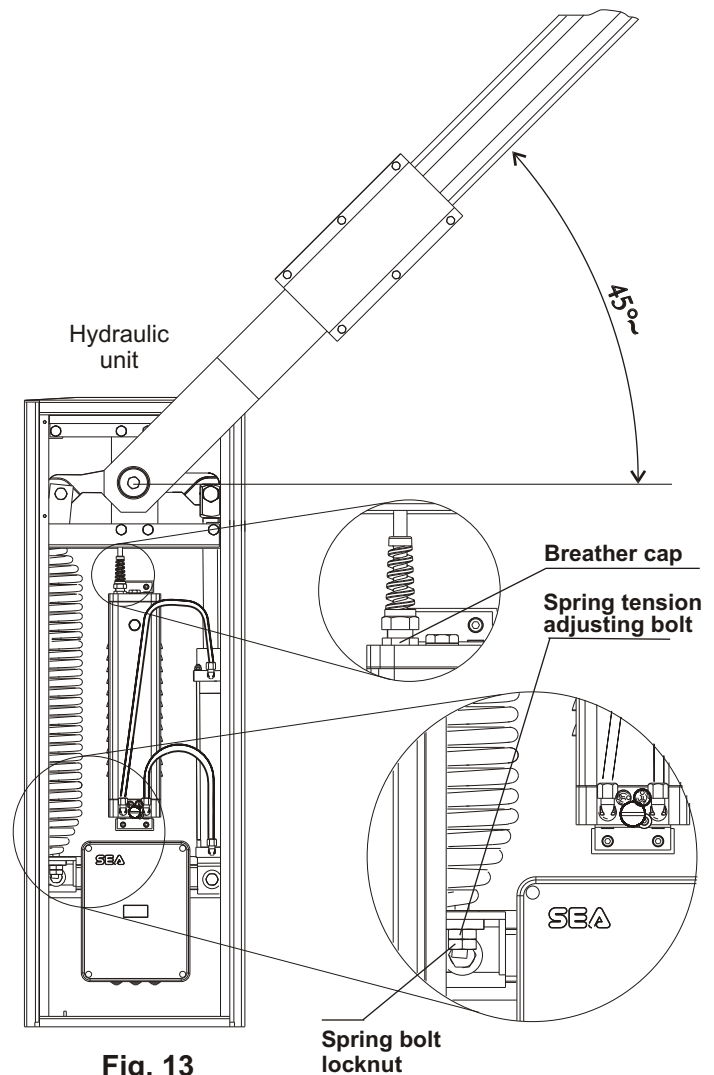

Fig. 13
- Place the beam at approx. 45° and execute the balancing with the nuts of Fig. 13
- Tight or untight the spring adjusting bolt locknut so that the spring reaches a balance point with the beam at 45° (Fig.13).